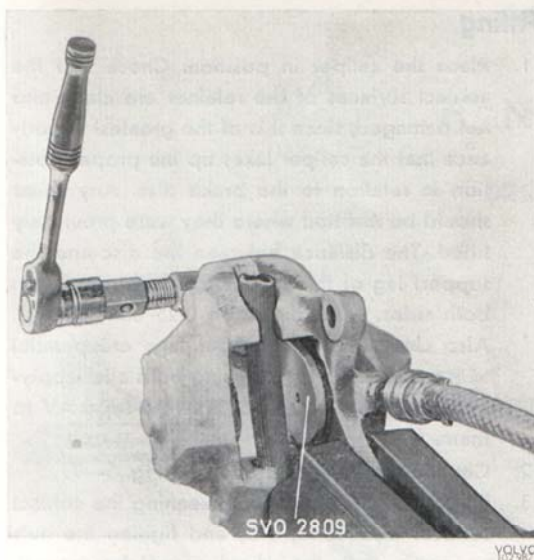

Fig. 5—9. Removing the piston
2. Remove the retaining rings and the rubber dust covers. Place the caliper in a vice, see Fig. 5—9. Fit SVO 2809 and press one of the pistons down to the bottom. Fit a suitable bleeder connection, see Fig. 5—9, to the caliper. Place a piece of hose in the caliper and blow out the other piston. The pressure required should go up to about 7 kp/cm² (100 p.s.i.). Remove the piston.